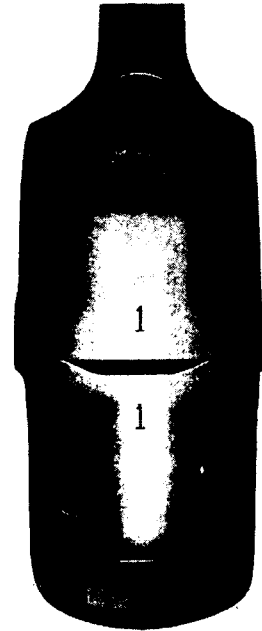

Fig. H.5.
6. Fit lower half bearing shell to connecting rod cap, locating tag in the machined slot, oil and fit cap to crankpin, ensuring that numbers on rod and cap coincide as shown in Fig. H.5.